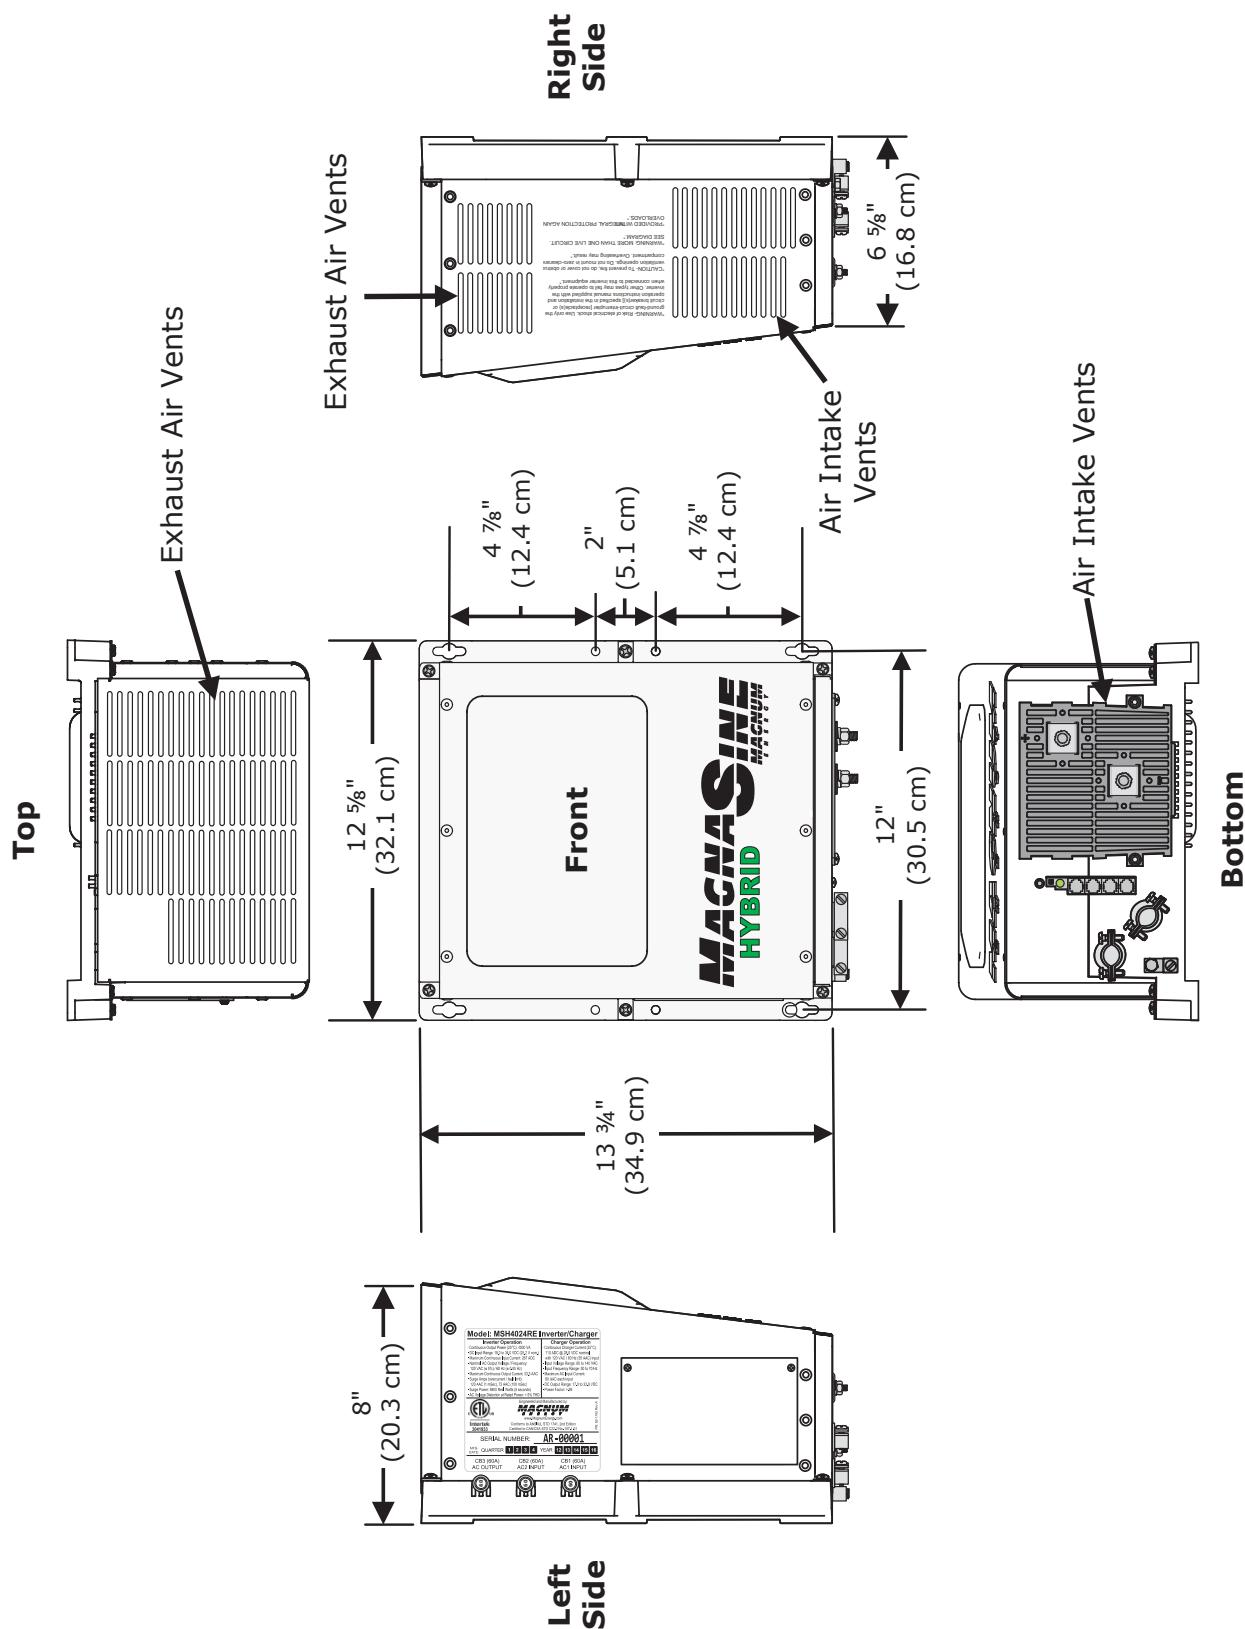

Figure 2-3, MSH4024RE Dimensions and Side Reference
- 9 **Intake Air Vents** – ventilation openings to pull in air to help keep the inverter cool for peak performance. The intake air vents are located on the front side and at the front on the right side; see Figure 2-3 for the locations of the air vents.
- 13** **Exhaust Air Vents** – ventilation openings that allow heated air to be removed by the internal cooling fan. The exhaust air vents are located on the back side and at the rear on the right side; see Figure 2-3 for the location of the air vents.
Accessible – Do not block access to the inverter's remote control and accessory ports, as well as the inverter's controls and status indicator. Allow enough room to access the AC and DC wiring terminals and connections, as they will need to be checked and tightened periodically. See Figure 2-3 for the MSH-RE Series inverter/charger's dimensions.
After determining the mounting position, refer to the physical dimensions as shown in Figure 2-3, or use the base of the inverter as a template to mark your mounting screw locations. After marking the mounting screw locations, mount the unit with appropriate mounting hardware.